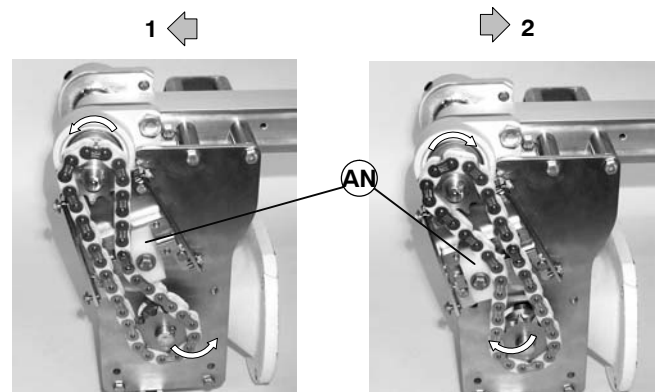

Figure 30
3. Loosen four set screws (AM) and (AP).
4. Remove timing chain (L) and sprockets (M and Q) from conveyor input shaft and gear reducer output shaft. Make sure to retain sprocket keys.
5. Depending on conveyor belt travel (direction 1 or 2 of Figure 30), locate timing chain tensioner (AN) as shown. Do not tighten tensioner screw.